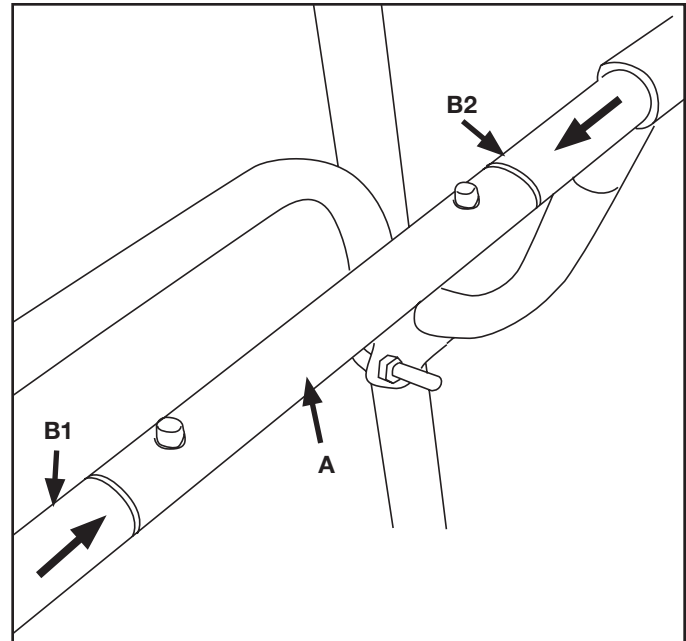

Fig. 5
**INSTALL THE CENTER AND SIDE MOUNTING BARS (FIG. 5)**
5. Slide side mounting bars [B1, B2] through each upper mounting post. Connect the center mounting bar [A] to both side mounting bars by engaging the spring loaded pins as shown. (Fig. 5)